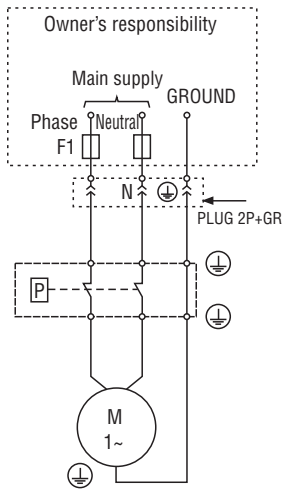

FIGURE 7 - ELECTRIC DIAGRAM (MOTOR WITH THERMAL PROTECTOR)
- Figure 7, shows a electrical diagram for electric connections with pressure switch and fuse.